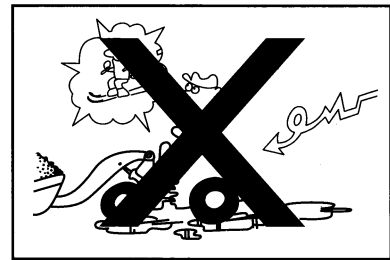

Figure1-53
- It is hard to control the steering wheel when the loader drives on a uneven terrain or a messy road, so take great care to prevent overturning. (Figure 1-53)